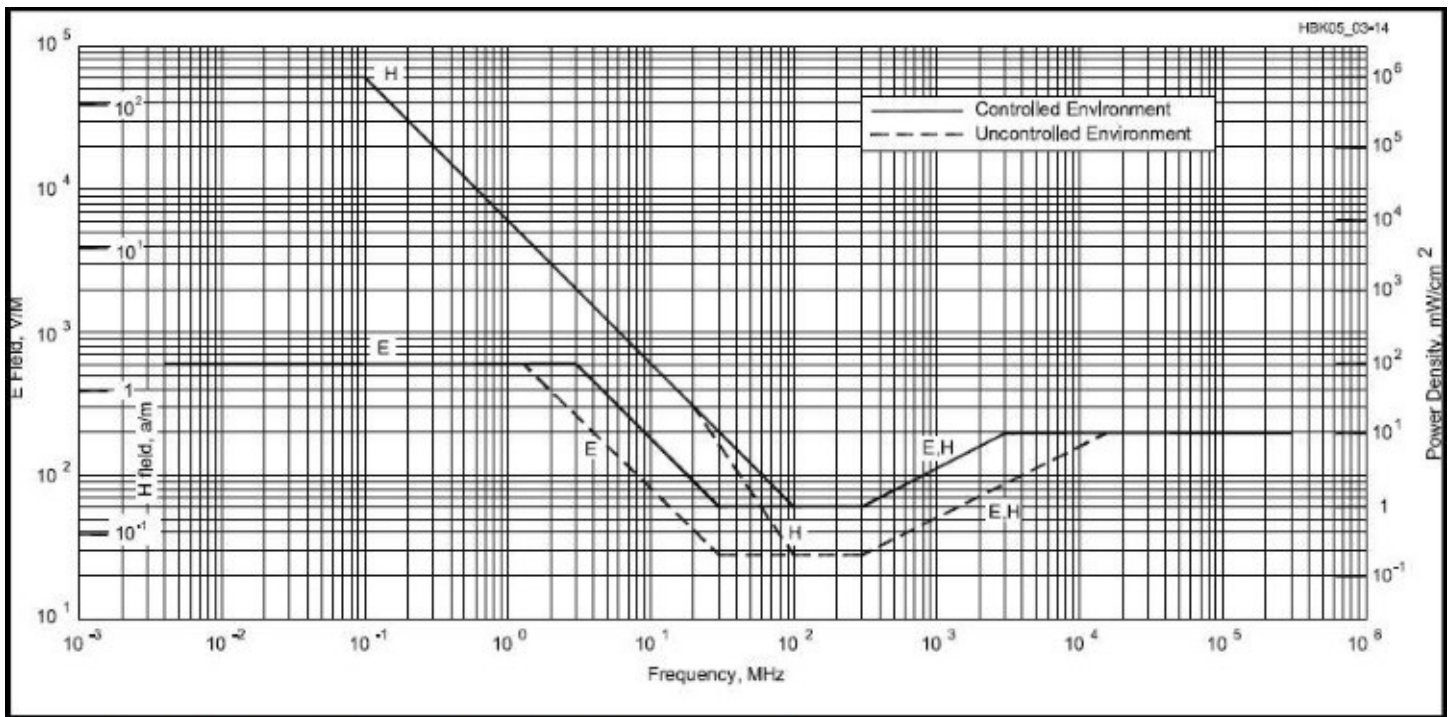

Figure 4.1 – 1991 RF protection guidelines for body exposure of humans.
The graph in **Figure 4.1** depicts the 1991 IEEE standard (which is still used as the basis of FCC regulation). It is necessarily a complex graph, because the standards differ not only for controlled and uncontrolled environments but also for electric (E) fields and magnetic (H) fields. Basically, the lowest E-field exposure limits occur at frequencies between 30 and 300 MHz. The lowest H-field exposure levels occur at 100-300 MHz. The ANSI standard sets the maximum E-field limits between 30 and 300 MHz at a power density of  $1 \text{ mW/cm}^2$  (61.4 V/m) in controlled environments — but at one-fifth that level ( $0.2 \text{ mW/cm}^2$  or 27.5 V/m) in uncontrolled environments. The H-field limit drops to  $1 \text{ mW/cm}^2$  (0.163 A/m) at 100-300 MHz in controlled environments and  $0.2 \text{ mW/cm}^2$  (0.0728 A/m) in uncontrolled environments. Higher power densities are permitted at frequencies below 30 MHz (below 100 MHz for H-fields) and above 300 MHz, based on the concept that the body will not be resonant at those frequencies and will, therefore, absorb less energy.